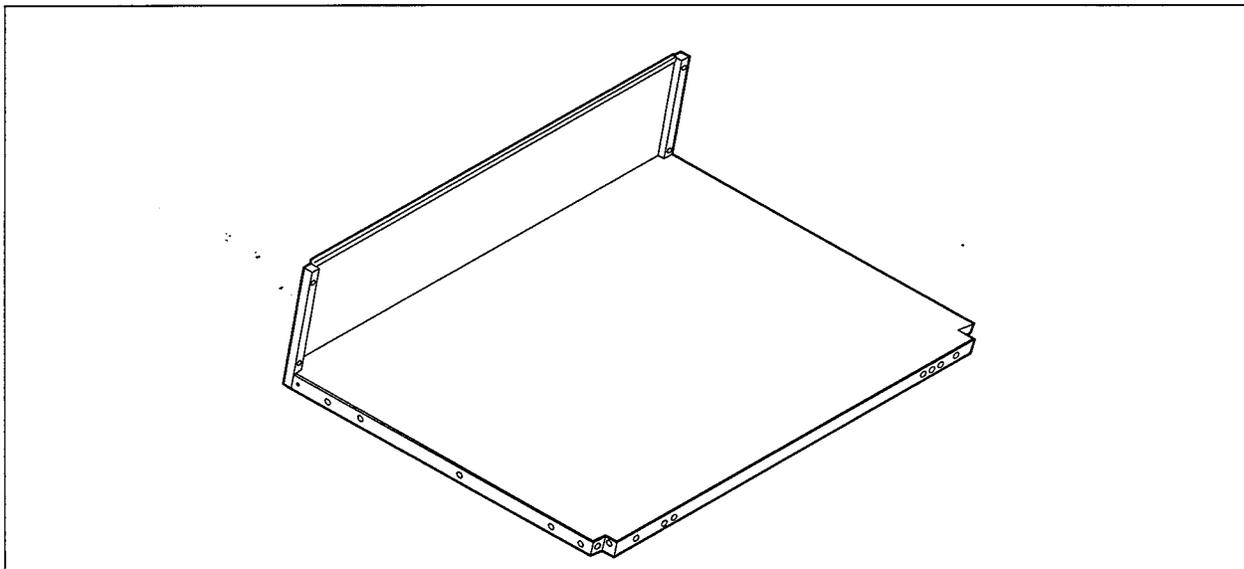

Fig. 1
A. Prepare bed for van box (See Fig. 1)
1. Remove all components from load bed until the configuration in Fig. 1 is achieved.